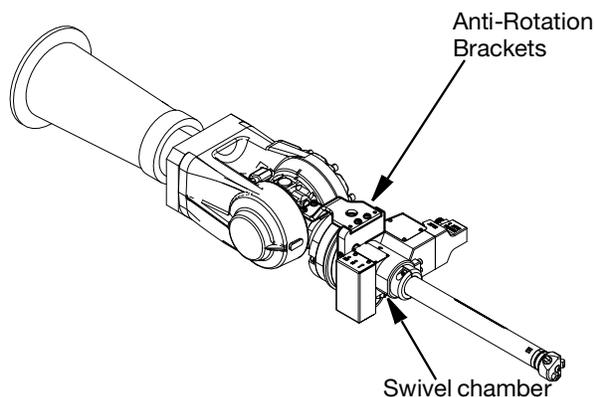

FIG. 4
After the Switch 3D Gun is mounted to the robot, the anti-rotation brackets must be attached to the swivel housing (619) and to the fixation point on the robot using the hex head screws. Exact fitting of the anti-rotation brackets will depend on the robot and kit being used. See FIG. 4 for installation example and page 30 for swivel chamber part reference.